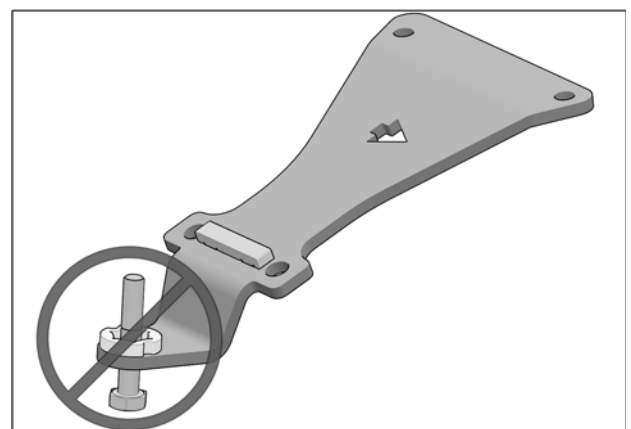

Fig. 16
**CAUTION:** Be sure that bolt is inserted in the right direction. See Fig. 16